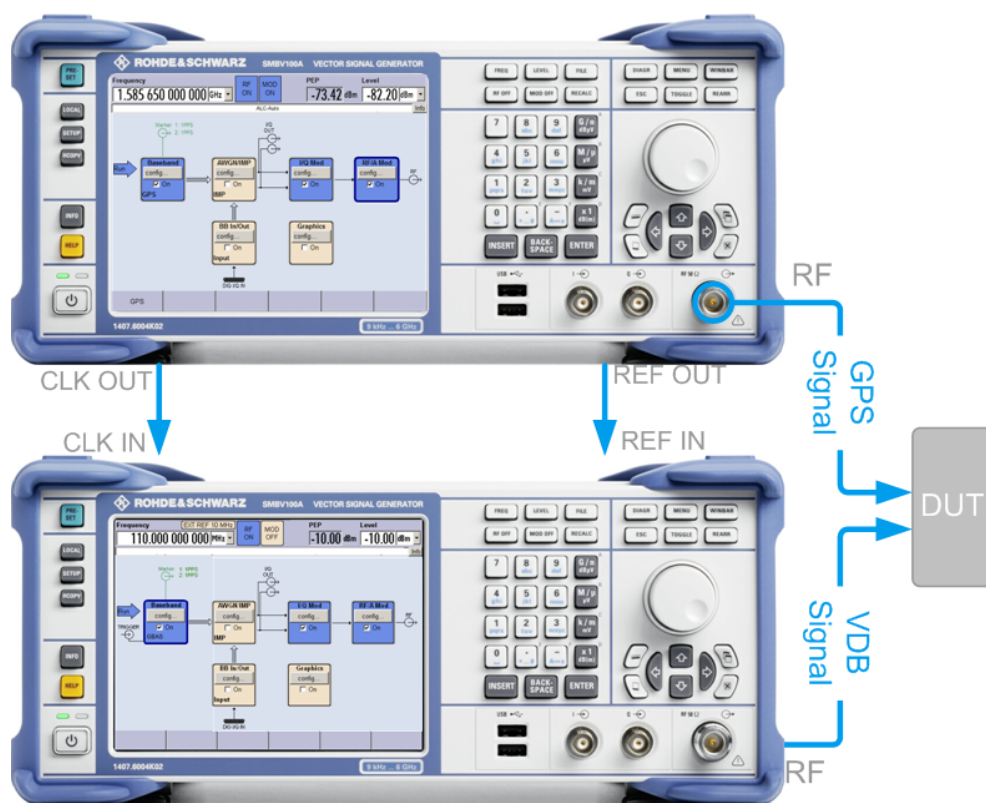

Figure 9-1: Example of test setup
- ▶ Connect the instruments to work in master-slave mode, see Figure 9-1.